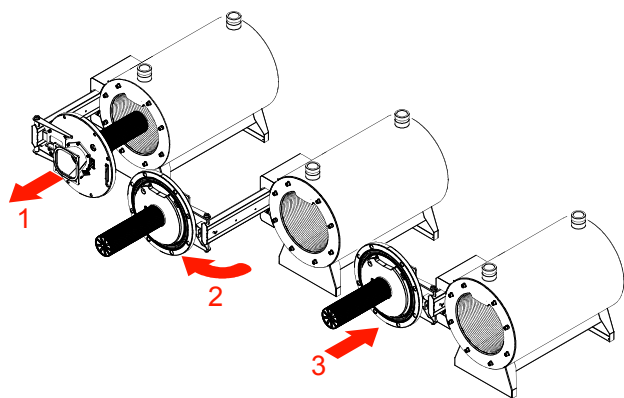

Figure 37: Burner Door Opening
- d. This unit is equipped with a sliding mechanism shown in Figure 37. Position (1) burner assembly slides out of the combustion chamber, (2) rotate away from the combustion chamber and (3) sliding back to allow full access to the combustion chamber for inspection and service.